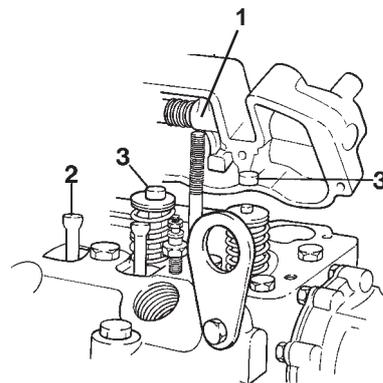

Fig. 13. Dismantling of rocker mechanism (MD2040)
- 18. Release the nuts from the rockers' bearing brackets. Remove the rocker mechanism (1, Fig. 13) and push rods (2). Remove the valve caps (3, MD2040) from the valve stem.